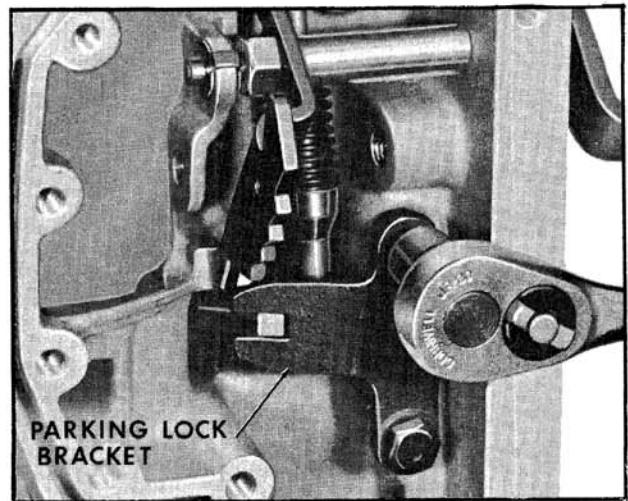

Fig. 6-385 Removing Parking Lock Bracket
1. Remove two parking lock bracket bolts with 1/2" socket. Remove parking lock bracket. (Fig. 6-385)